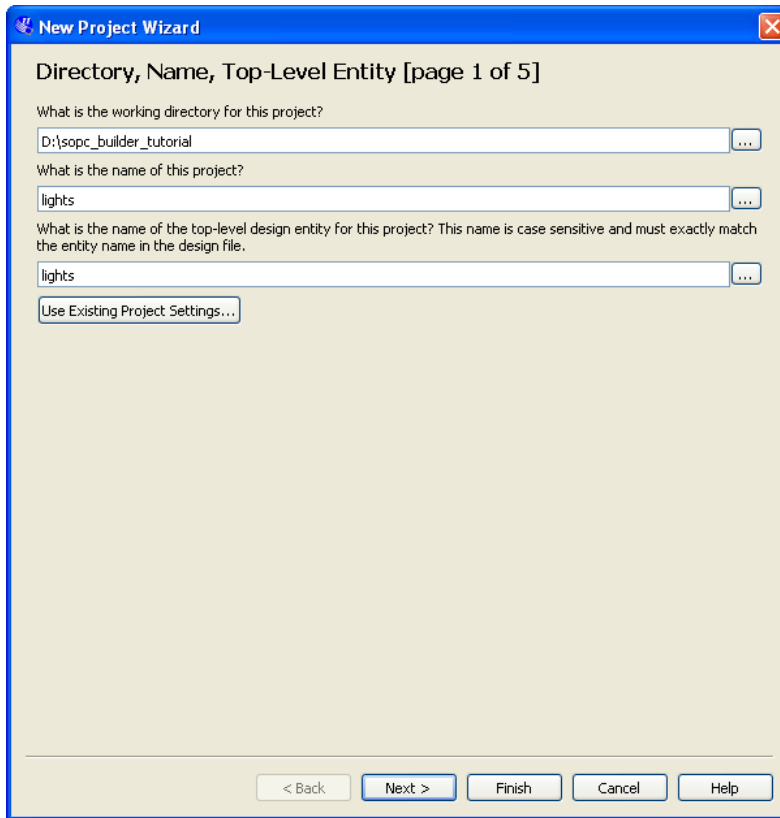

Figure 3. Create a new project.
1. Create a new Quartus II project for your system. As shown in Figure 3, we stored our project in a directory called *sopc_builder_tutorial*, and we assigned the name *lights* to both the project and its top-level design entity. You can choose a different directory or project name, but **be aware that the SOPC Builder software**
Bij stap 1 op pagina 4 moet je gewoon op Next klikken bij de dialogbox die verschijnt na figure 3 op pagina 6. Bij de volgende dialogbox moet je de juiste FPGA chip (device name) selecteren volgens de tabel op pagina 6. Daarna nog eenmaal op Next klikken en daarna op Finish.
Figure 18 shows a top-level VHDL module that instantiates the Nios II system. This entity is named *lights*, because this is the name we specified in Figure 3 for the top-level design entity in our Quartus II project. Note that the input and output ports of the entity use the pin names for the 50-MHz clock, *CLOCK_50*, pushbutton switches, *KEY*, toggle switches, *SW*, and green LEDs, *LEDG*, that are specified in the DE-series User Manual. On a DE0-Nano board, you have to change the code slightly to use four dip switches, *SW3-0*, and four LEDs, *LED3-0*. Type this code into a file called *lights.vhd*. Add this file and all the *.vhd files produced by the SOPC Builder to your Quartus II project. Also, add the necessary pin assignments on the DE-series board to your project. The procedure for making pin assignments is described in the tutorial *Quartus II Introduction Using VHDL Designs*. Note that an easy way of making the pin assignments when we use the same pin names as in the DE-series User Manual is to import the assignments from file. For example, the DE2 pin assignments can be found in the *DE2_pin_assignments.qsf* file, in the directory *tutorials\design_files*, which is included on the CD-ROM that accompanies the DE-series board and can also be found on Altera's DE-series web pages. On a DE2-70 board, you may also need to change operating mode of the nCEO pin to regular I/O. This can be done by going to Assignments > Device > Device and Pin Options > Dual-Purpose Pins and double-clicking on the Value field of the nCEO pin and